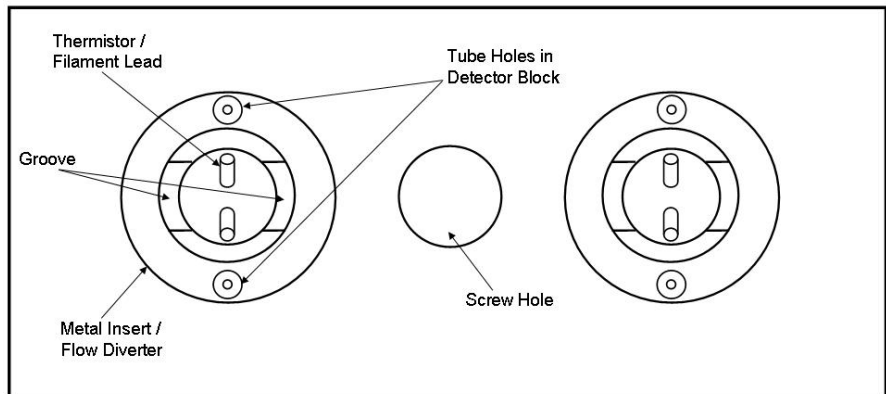

Figure 4-55: Proper Alignment of Metal Inserts
8.	<p>Install the metal inserts (14) in the detector block (4). These inserts should be installed with the groove perpendicular to the tube holes in the block (so that air cannot flow in a straight path between the holes). Refer to Figure 4.55</p>